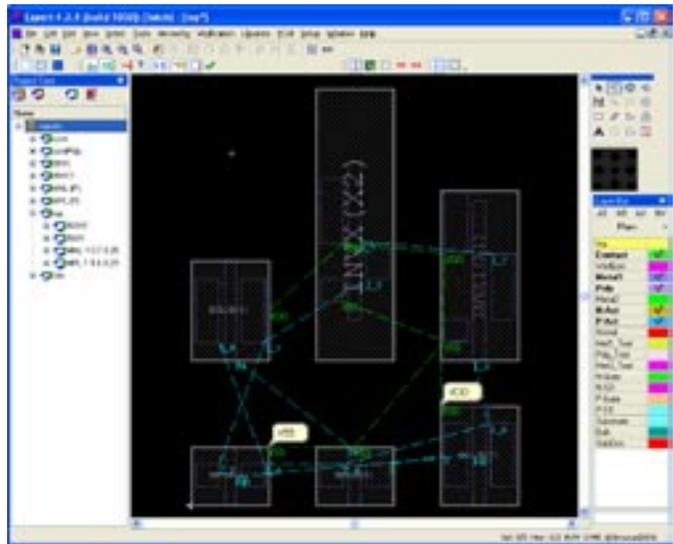

Figure 5. Initial placement with highlighted nets.
9. Click right mouse button at “top” again, then select ‘Create’ command in the popup menu. NDL tool uses cells that are already in the project MNL, MPL, INVX and INVX1 to create new cell “top”. MNL and MPL are P-cells, whose instance parameters L and W are selected based on netlist <latch.net>. See Figure 5.
11. After the NDL run, the new cell “top” (or the cell name just chosen by ‘Map’ command) opens automatically. *Expert* shows flight lines to indicate which pins belong to the same net and should be connected to each other, as seen in Figure 5.